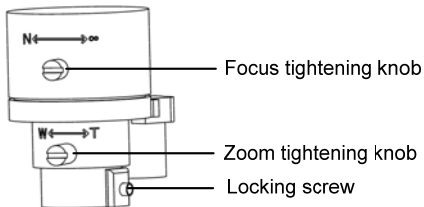

Figure 8
- d. If there are still blurred images, loosen the locking screw with an Allen wrench (as shown in Figure 8) to adjust the back focal length and repeat the above procedures.